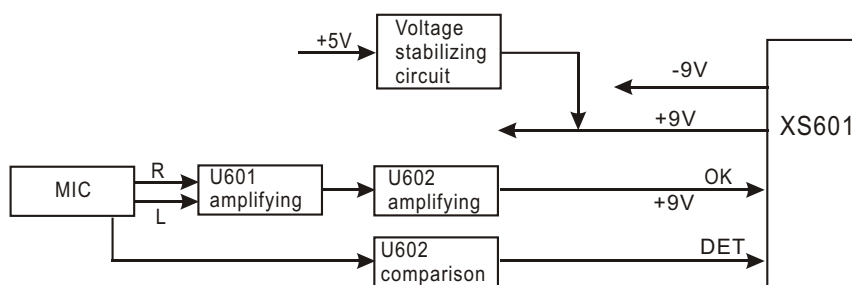

Figure 7.1.2.1 MIC circuit block diagram
1. MIC circuit block diagram is shown in the figure 7.1.2.1: